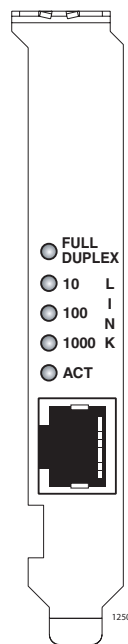

Figure 1. AT-2916T Gigabit Ethernet Adapter
**AT-2916T** The AT-2916T Gigabit Ethernet adapter has one copper port and five LEDs, as shown in Figure 1 and described in Table 1.